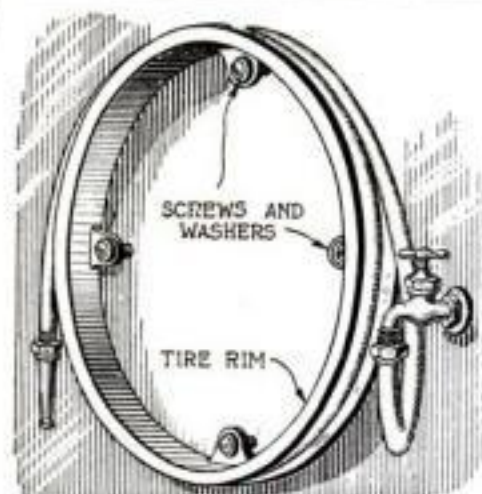

Fig. 3. The hose you use for washing the car can be kept out of the way and where it is handy, with a reel made of an old automobile rim as shown above
**T**HE short piece of hose that you keep in the garage to wash the car can be kept in good condition, handy and yet out of the way, by bolting an old rim to the wall near the water tap as shown in Fig. 3. Almost any old rim will provide ample space for the short piece of hose that is ordinarily used in the home garage.